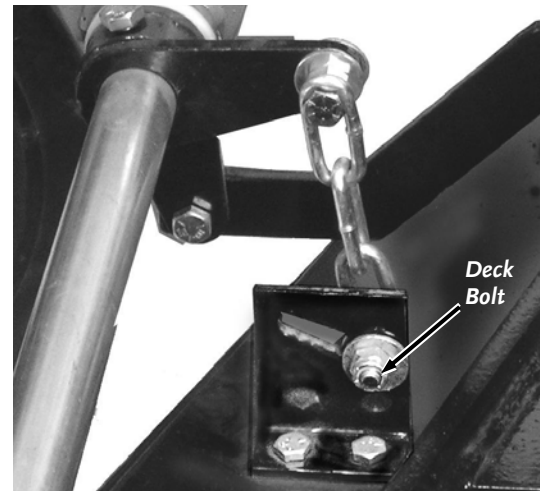

Figure 27
There are four Adjustable Hangers (**Figure 27**) on the Mower Deck and used to maintain a consistent cutting height across the Deck. These may need adjustment from time to time.
2. Re-position the Deck Bolt (**Figure 27**) in the slot as required by removing the Bolt, placing it in a higher or lower position, and then tighten securely.